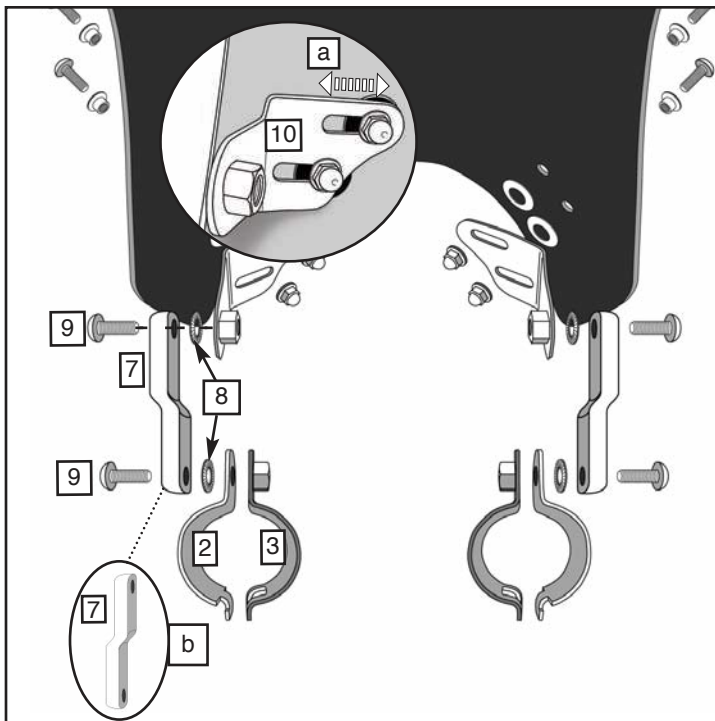

Figure 5
10. Install the Left Offset Bracket (7) to the Inner Bracket (10) with 1, Serrated Washer (8) and Screw (9). **Figure 5**
13. Hold Inner Clamp (3) to inside of fork tube, hook Outer Clamp (2) to the Inner Clamp. **Figure 5 and 6**
14. Secure Clamp Assemblies to the Offset Brackets (7) with remaining M8 Screws (9) and Washers (8). **(6mm Hex Wrench) Figure 5 and 6.**